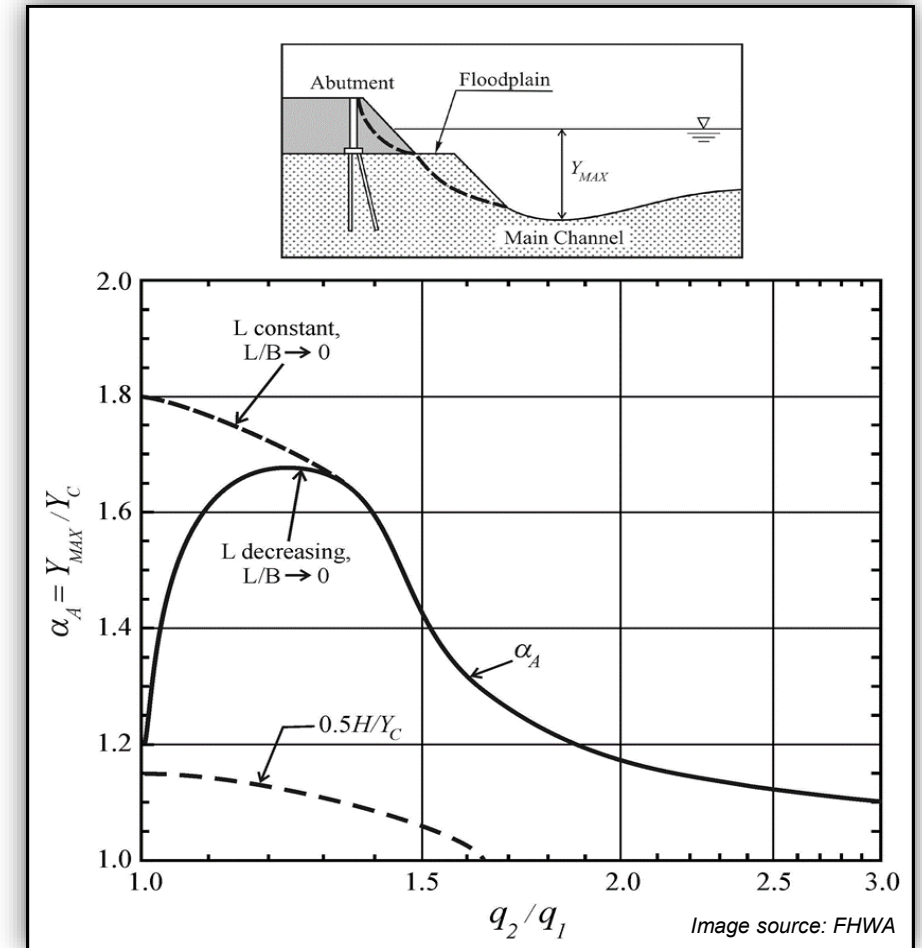

Figure 8.9. Scour amplification factor for spill-through abutments and *live-bed conditions* (Scour Condition A)
- Scour Condition A, spill-through abutments (Figure 8.9)
- Evaluate the amplification factor ( $\alpha_{A/B}$ ) from HEC-18 Figures 8.9 through 8.12